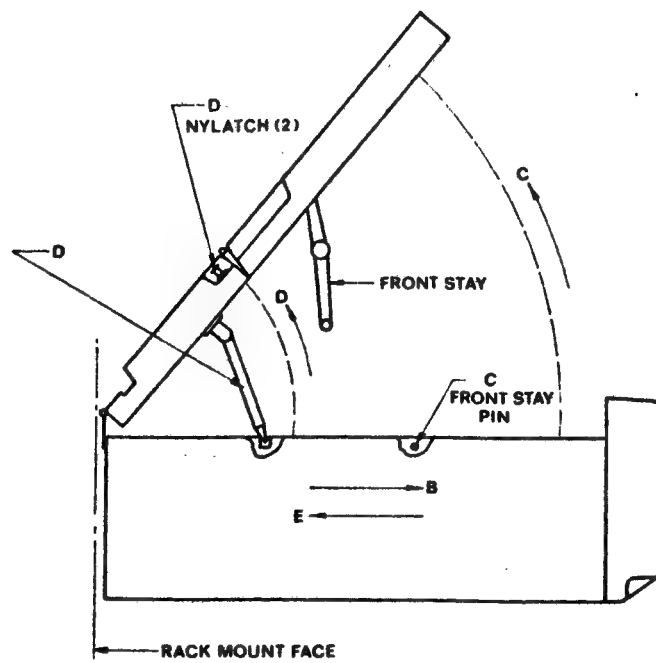

Figure 3-4
- D Release two Ny-Latch fasteners and raise rear top cover. Secure rear top cover by placing retainer (on left side) into its retaining slot (Figure 3-4).